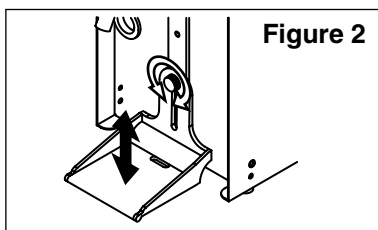

Figure 2
4. Adjust the server bottle tray to the height of the server bottles to be used (Figure 2). After adjusting it, pull the nozzle toward yourself.